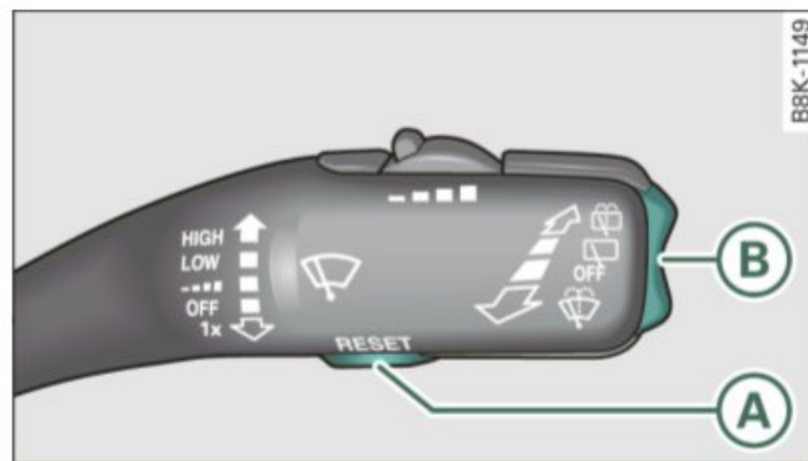

Fig. 16 Windshield wiper lever: controls for the trip computer
You can switch between the trip computer 1 and 2 and the efficiency program* by pressing the **RESET** button  ⇒ page 23, fig. 16.
- To display the trip computer memory levels, press the **RESET** button (A) ⇒ fig. 16 repeatedly until the desired memory level is shown in the display.
- To display trip information within a memory level, press the top or bottom part of the function selection switch (B).
- Press the **RESET** button **(A)** ⇒ *page 23, fig. 16* repeatedly until the efficiency program appears in the display.
- In the efficiency program, press the function selection switch ⇒ *page 23, fig. 16* **(B)** repeatedly until the other equipment appears in the display.
- To turn a fuel economy message off immediately after it appears, press the **RESET** button ⇒ page 23, fig. 16 **(A)**, or
- Press the function selection switch ⇒ page 23, fig. 16 **(B)**.